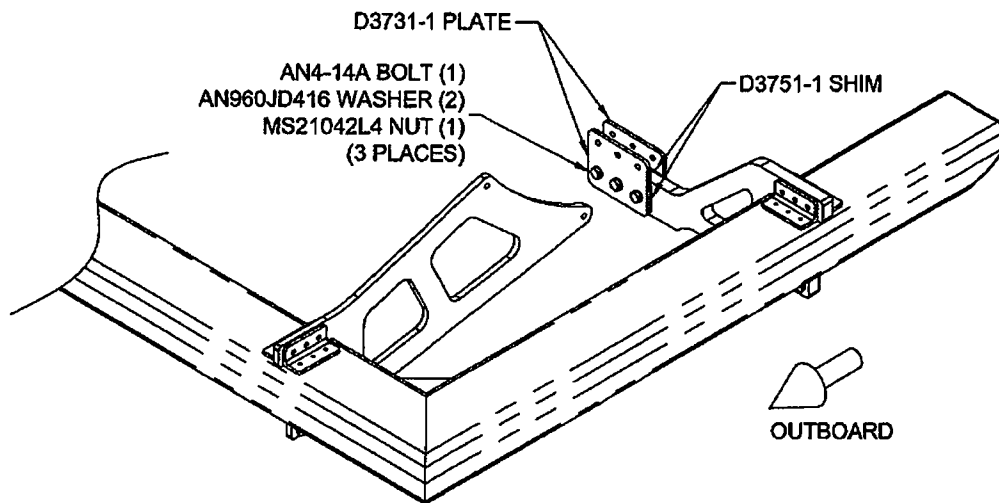

Figure 11 – Step Plate Assembly
- 3.2.2 Assemble the D3731-1 plates and D3751-1 shims onto the forward step mounting bracket as shown in Figure 11. Do not torque the fasteners.
- 3.3.1 Assemble the D3731-1 plates and D3751-1 shims onto the forward step mounting bracket as shown in Figure 11. Do not torque the fasteners.